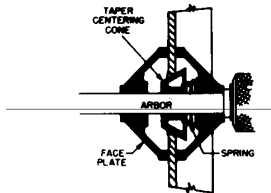

Figure 12
A. When machining rear hubless drums, use the 90526 Floating Drum Attachment (90559 or 90560 Truck Face Plate Set if truck drums are to be machined), select the proper cone to fit the center hole in the drum. Follow the illustration as shown in Figures 12 & 15.